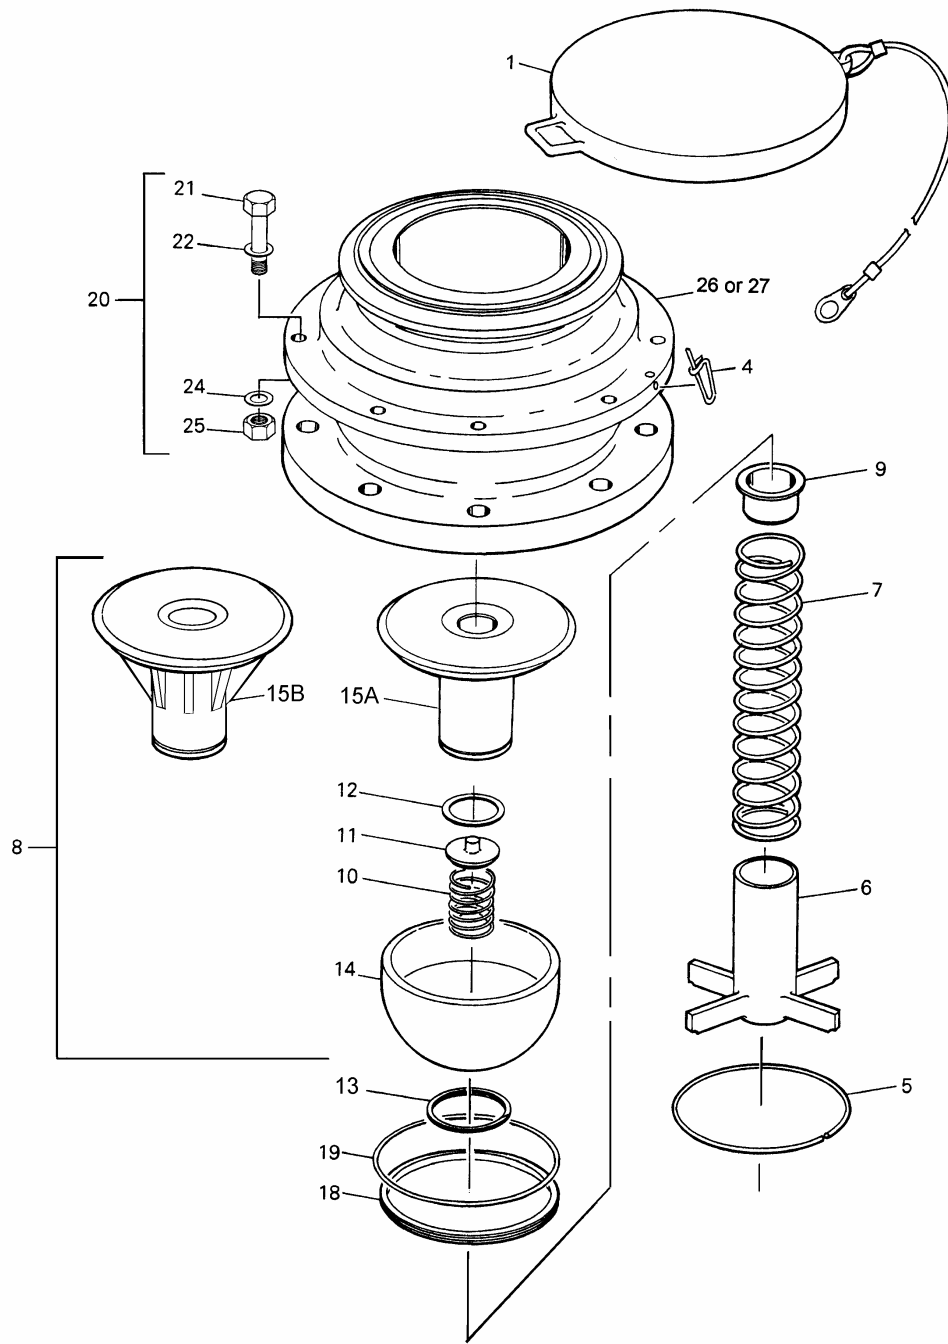

Figure 1
- Refer to Figure 1 for an exploded view of the Unit.
- 4.1 Remove Dust Cap Assembly (1) from unit only if it is to be replaced or it is more convenient to work on the unit with it removed. If the Dust Cap (1) is in good shape, do not replace.
Table 1.0 tabulates the parts and sub-assemblies comprising the various adapters covered by this manual. The item numbers of the table are keyed to the exploded views of the Units diagrammed in Figure 1.